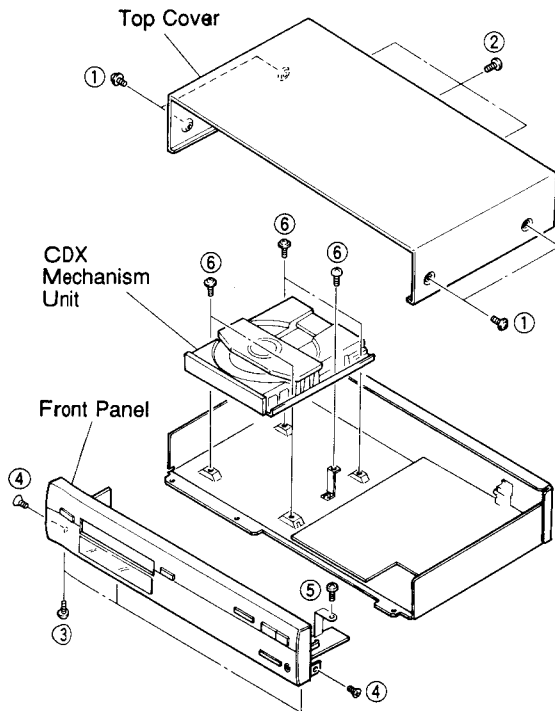

Fig. 1
- Remove 4 screws ( ① ) and 3 screws ( ② ) in Fig. 1.
- Remove 3 screws ( ③ ), 2 screws ( ④ ) and 1 screw ( ⑤ ) in Fig. 1.
- Remove 5 screws ( ⑥ ) in Fig. 1.